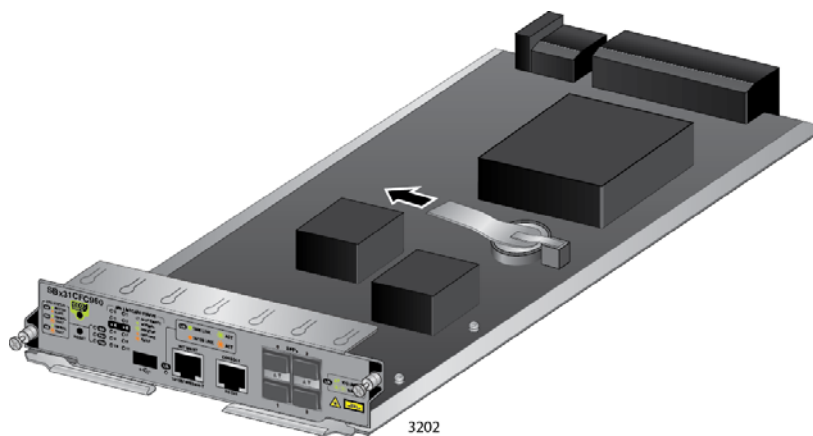

Figure 73. Removing the Battery Insulator
- Remove the battery insulator tab on the controller card by sliding it out from between the battery and battery clip, as shown in Figure 73 on page 140.